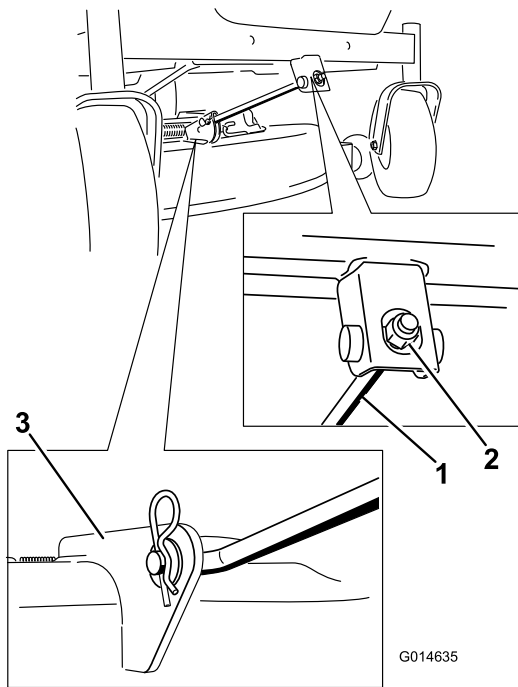

Figure 74
- Remove the hairpin cotter from the front support rod, and remove the rod from the deck bracket (Figure 74).
8. Attach the front support rod to the mower deck with the clevis pin and hairpin cotter (Figure 74).